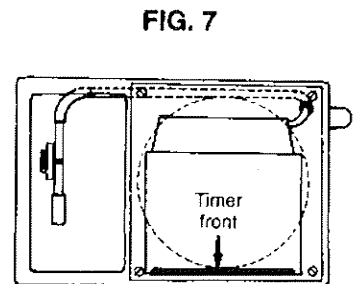

FIG. 7
4. Re-route the brine pick-up tube and refix the bracket and nut (Fig. 7).